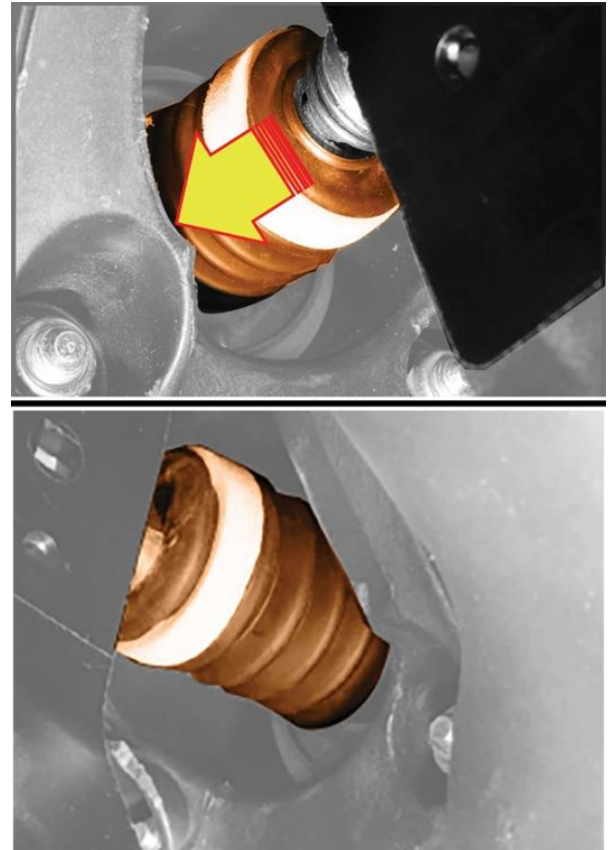

Figure 9 – Dust Boot Cover
16. Place the dust boot cover with filter in place and make sure you fit it correctly (Figure 9).